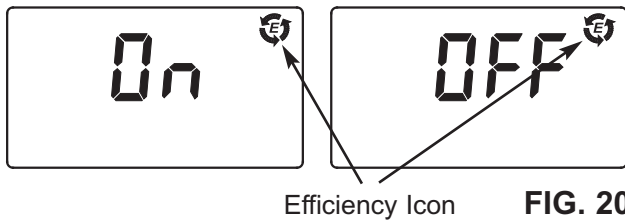

FIG. 20
2. Once in this display, press the SELECT button once and one of the two displays in Figure 20 is shown.